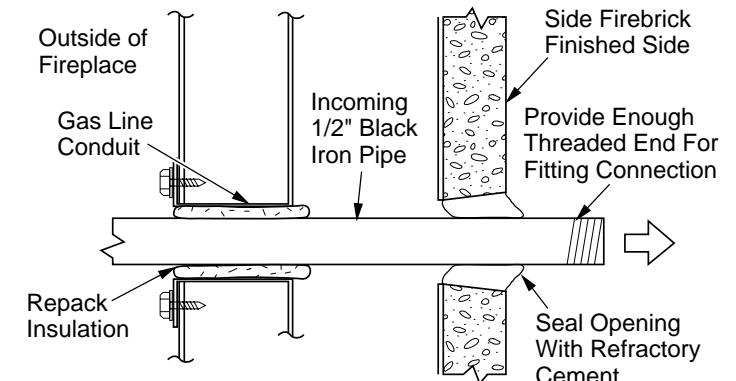

Figure 15 - Running Gas Line
- Run gas line into the fireplace through the rear at 11 $\frac{1}{4}$ " from the floor and through gas line conduit sleeve (if using a raised platform, add height). Provide sufficient gas line into fireplace chamber for fitting connection (see Figure 15).